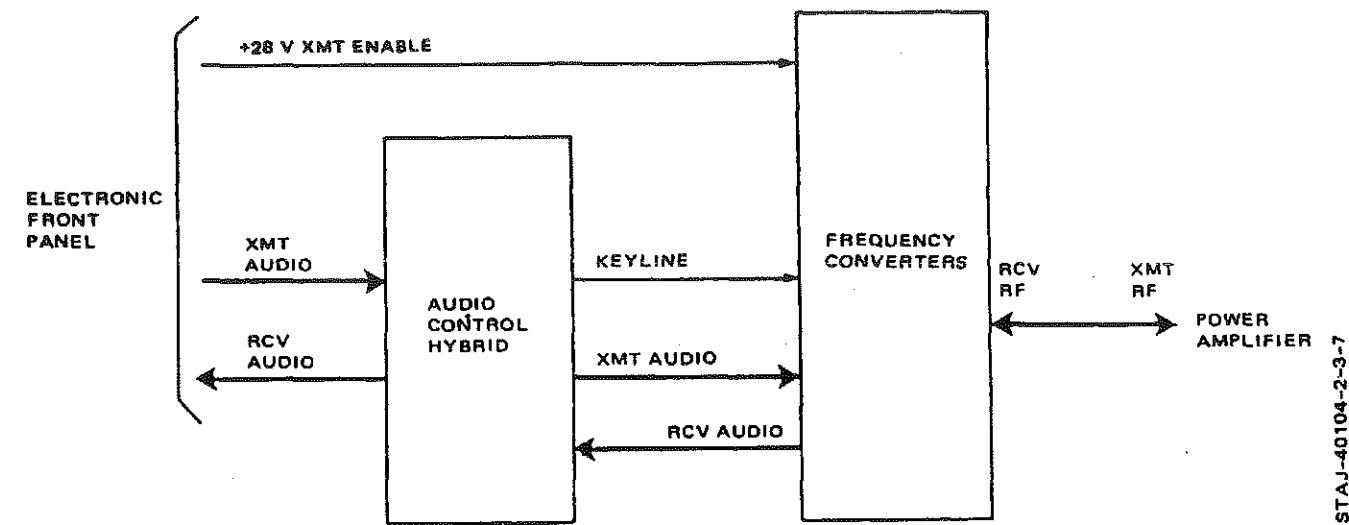

Figure 2-14. Modulator/Demodulator
**MODULATOR/DEMODULATOR (1 of 2), fig 2-14**